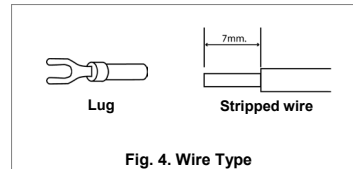

Fig. 4: Wire Type
- Use flexible cable (stranded or solid) of AWG No. 22-12. The input/output connectors' allowable current is 23A max per pin. User should calculate and select the suitable wire specification (type/quantity/diameter) according to actual output current. The torque at the connector shall not exceed 13Kgf.cm. The insulation stripping length should not exceed 0.275" or 7mm (Refer to Fig. 4).